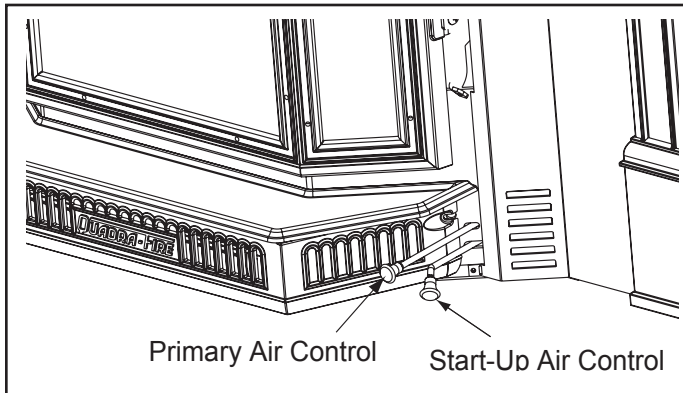

Figure 23.1
3. Open Start-Up Air Control (right control) and Primary Air Control (center control under ashlip) fully. **Figure 23.1 on page 23.**